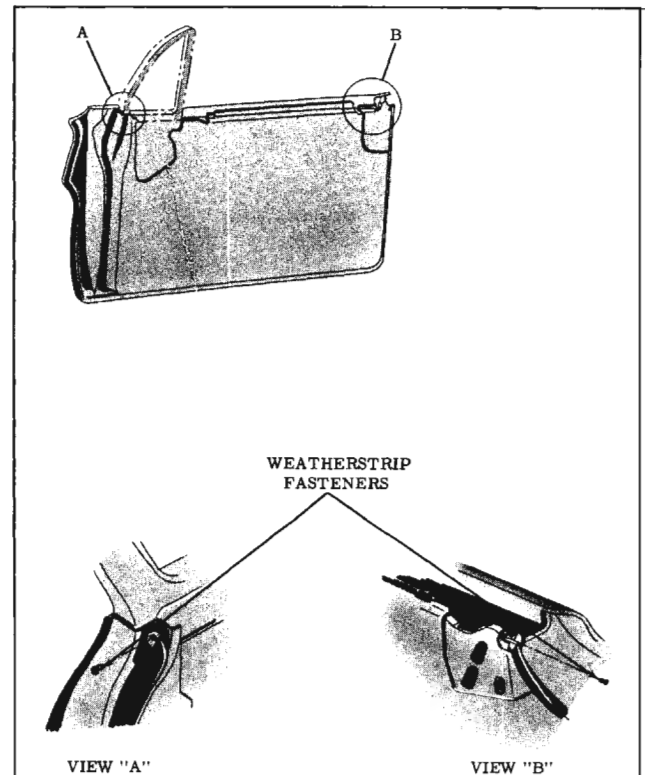

Fig. 16-21 Front Door Weatherstrip
1. Remove snap fasteners securing ends of weatherstrip at belt line of door hinge and lock pillar panels. (Fig. 16-21)